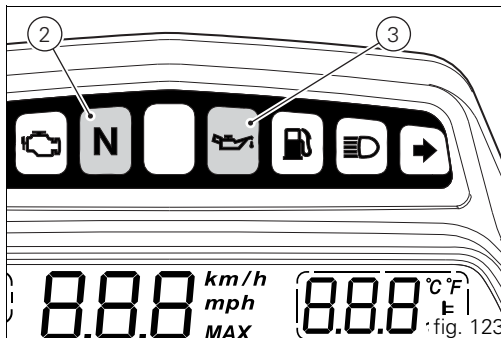

fig. 123
After this control, only the green light (2, fig. 123) and the red light  (3) must remain on.